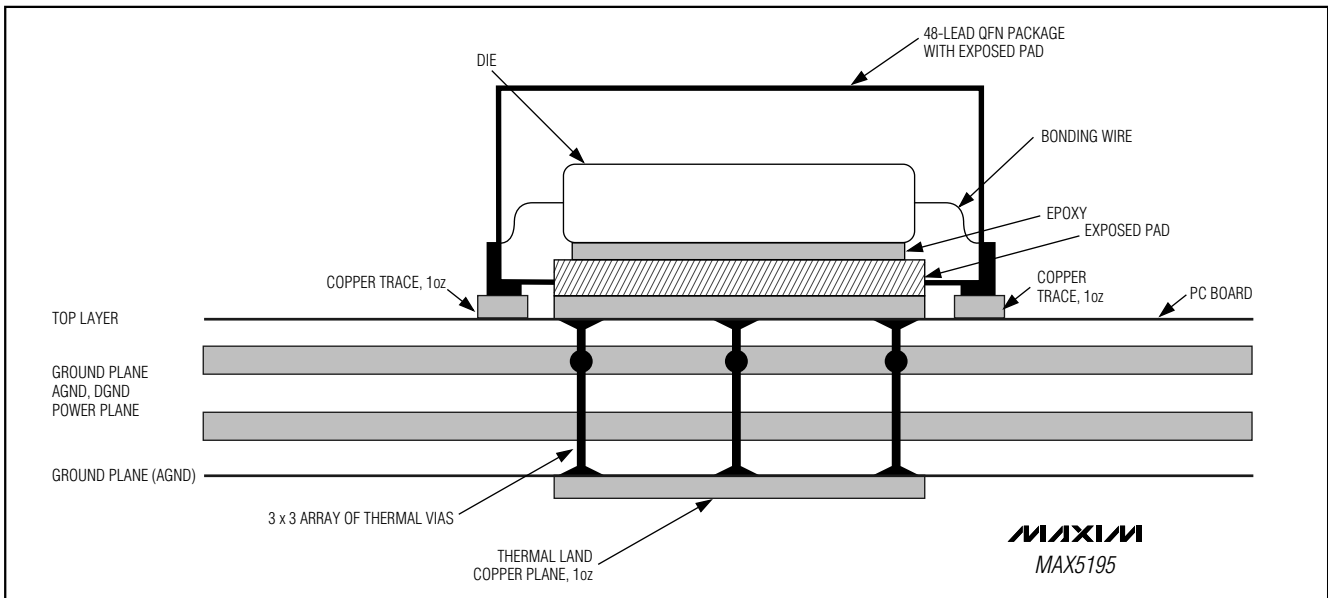

Figure 9. MAX5195 Exposed Paddle/PC Board Cross Section
The MAX5195 is packaged in a thermally enhanced 48-pin QFN-EP package, providing greater design flexibility, increased thermal efficiency, and a low thermal junction-case (θ_{jc}) resistance of $\approx 2^\circ\text{C/W}$. In this package, the data converter die is attached to an EP lead frame. The back of the lead frame is exposed at the package bottom surface (the PC board side of the package, Figure 9). This allows the package to be attached to the PC board with standard infrared (IR) flow soldering techniques. A specially created land pattern on the PC board, matching the size of the EP (5.5mm \times 5.5mm), guarantees proper attachment of the chip, and can also be used for heat-sinking purposes. Designing thermal vias* into the land area and implementing large ground planes in the PC board design further enhance the thermal conductivity between board and package. To remove heat from a 48-pin QFN-EP package effectively, an array of 3 \times 3 (or